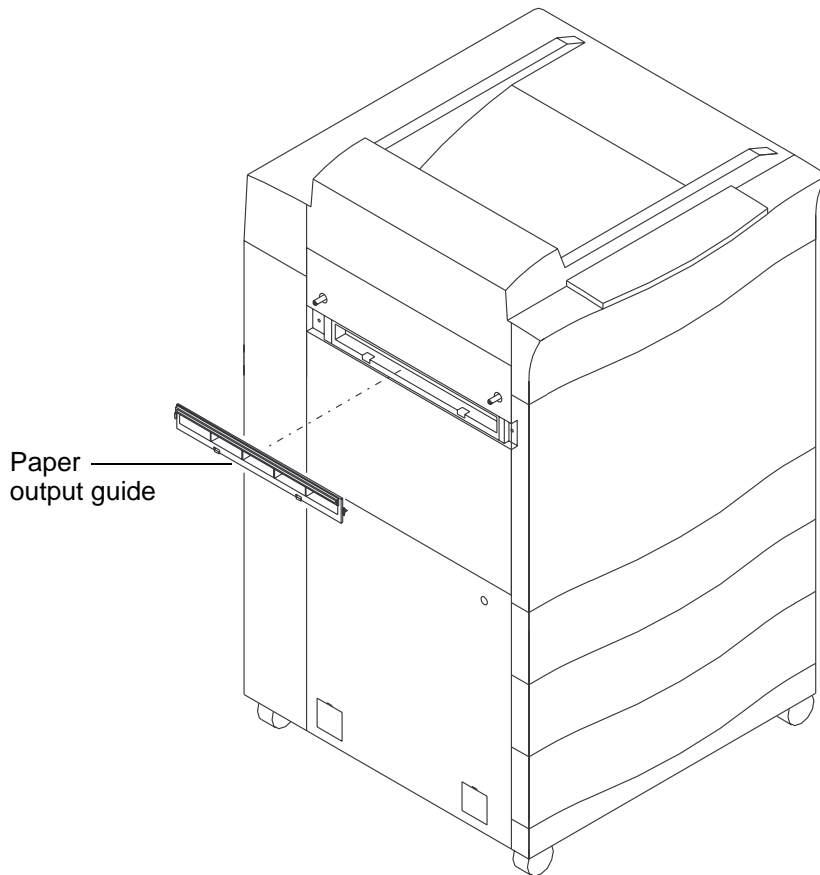

Figure 14 Attaching the paper output guide
Step 6 Snap the paper output guide in place. See Figure 14.